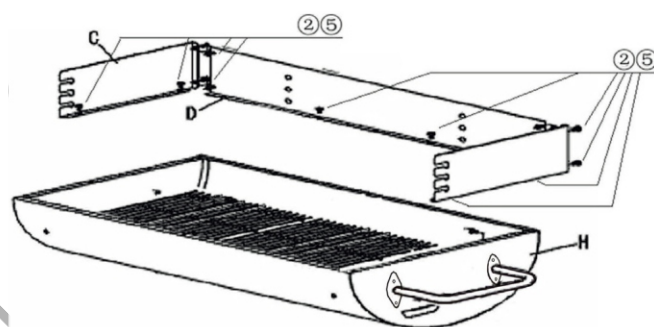

Fig. 4
6. Fix the side (C) and rear (D) windshields to the fire bowl using bolts (2) and nuts (5). **(Fig. 4)**